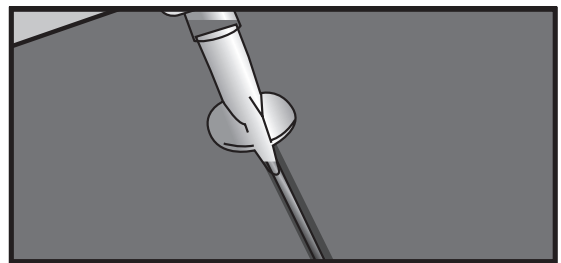

Figure 13c
- Insert the custom application tip into the seam of the pavers until the depth guide (washer) comes into contact with the top of the pavers (Fig. 13c).